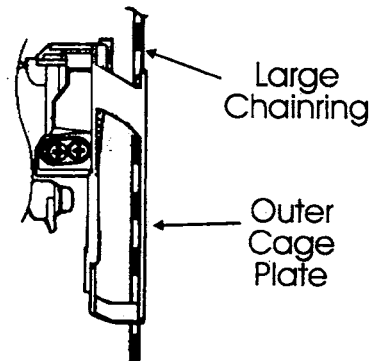

Fig. 16 - Proper angle of the derailleur cage.
To set the proper angle of the derailleur, position the outer cage plate to run parallel to the largest chainring. This may be performed more accurately by sighting down from the top of the crankset and using the large chainring as your straight edge (see figure 16). You may need to hold the derailleur in position while adjusting the angle. Be careful not to change the derailleur height while adjusting the angle.
Step 3 - Adjust the angle of the front derailleur cage so the outer cage plate is parallel to the large chainring. You may need to actuate the derailleur outward to do this properly (see figure 16).